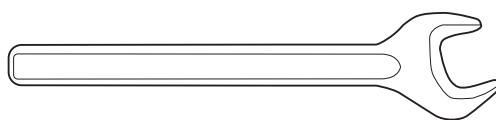

Fig. 12
- A chave fixa que acompanha a máquina (Fig. 12).
5. Monte a broca usando a chave fixa (Fig. 12).
- The supplied open-end spanner (Fig. 12).
5. Attach the drill bit using the open-end spanner (Fig. 12).